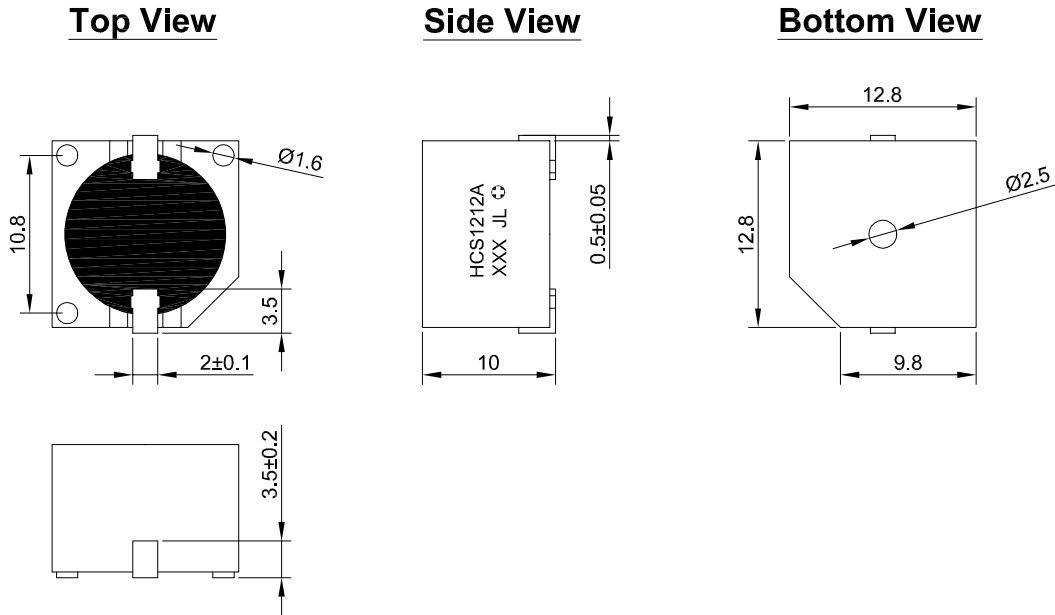

Figure 4. HCS1212A Mechanical Layout
4.3.1. Layout and Dimension	: See Section 7, Figure 4